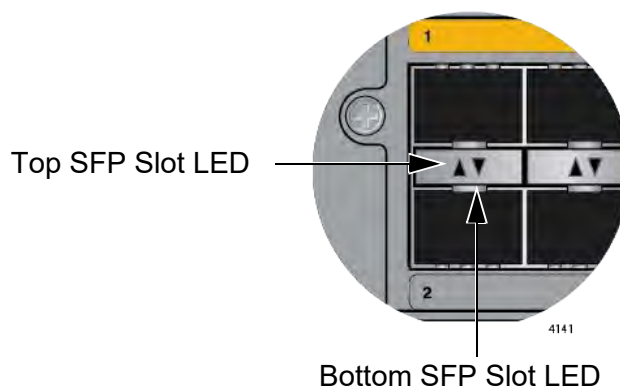

Figure 28. SFP Port LEDs on the AT-SBx81XLEM Line Card
**LEDs** Each SFP port on the AT-SBx81XLEM Line Card has one LED. The LED is shown in Figure 28 and described in Table 13.